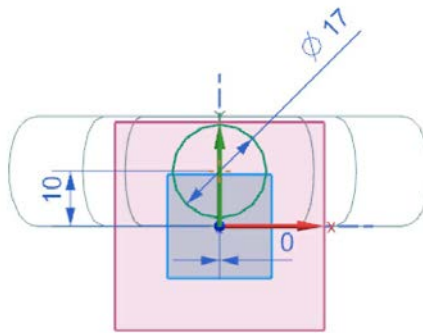

Figure 11-55 Sketch drawn for the extrude feature
- i. Create the extrude feature using the **Extrude** tool, refer to Figures 11-55 and 11-56.
1. Create the datum plane at an offset of 81 mm from the XC-YC plane and create the sketch for the eighth feature by selecting the offset plane as the sketching plane, as shown in Figure 11-55.